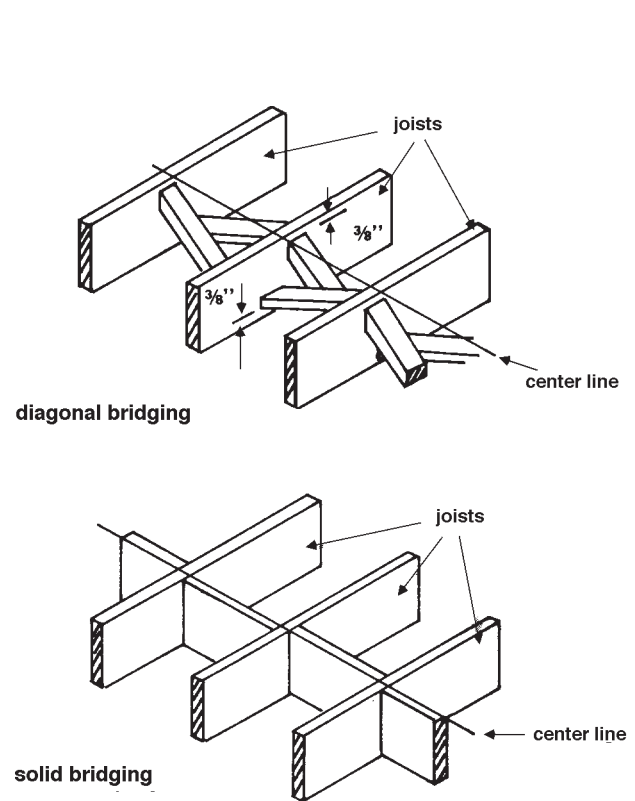

Figure 4. Methods of Installing Bridging
- solid bridging.** Bridging consisting of pieces of wood of the same size as the member being braced (joist or stud) and cut to fit between each two members (Fig. 4).